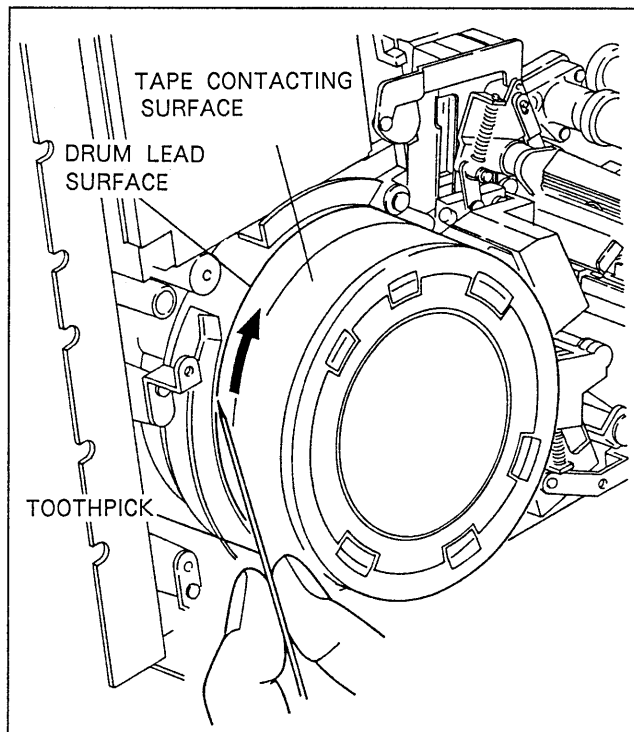

Fig. 5-2-2. Cleaning of Cylindrical and Lead Surfaces of Lower Drum
- 1) In order to prevent bad influence upon tracking due to magnetic material adhered to the lead surface of the lower drum, remove magnetic material, etc. with toothpick (or equivalent) as shown in Fig. 5-2-2.